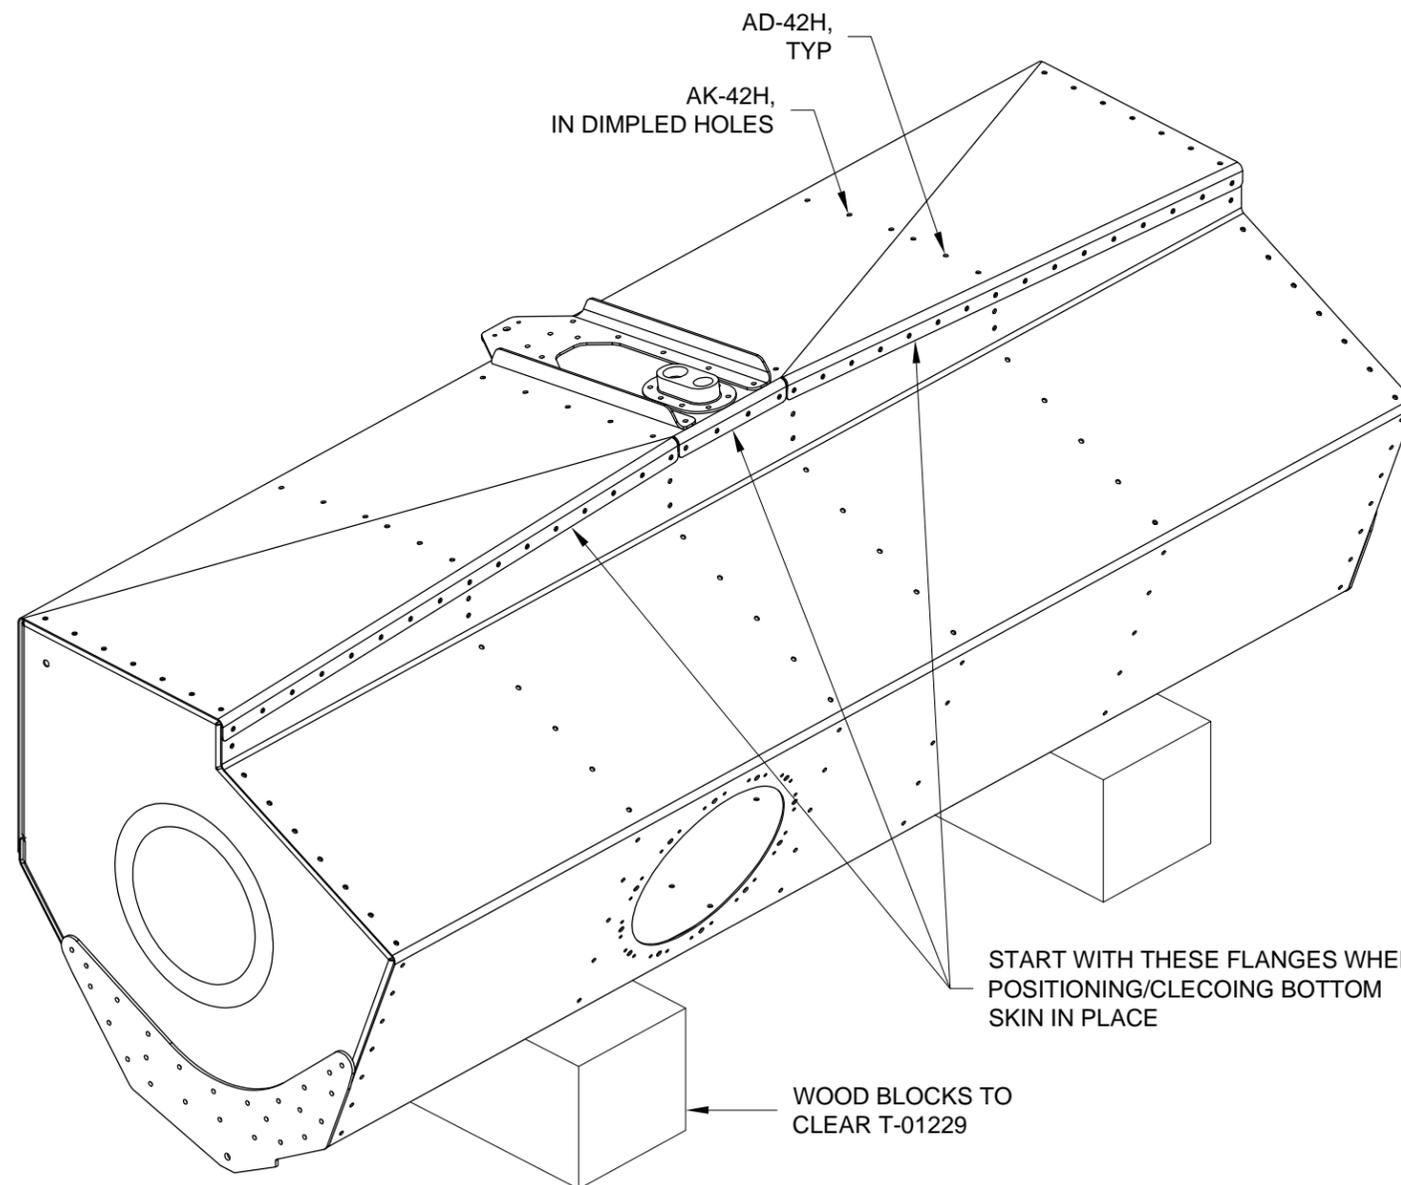

FIGURE 3: INSTALLING T-01221B BOTTOM SKIN
Step 6: With a helper, carefully place the bottom skin onto the inverted fuel tank while slightly prying the bottom skin open for clearance. As indicated in Figure 3, place and cleco the small flanges into place first, then wrap the skin around the tank.
Step 7: Cleco the rest of the bottom skin in place, then rivet using per the call-outs in Figure 3.